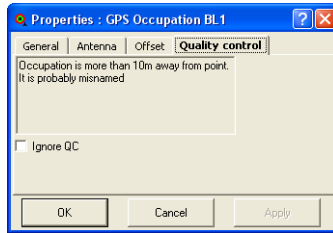

Figure 5-100. Quality Control Properties
5. View *Quality Control* tab contains informational text on selected occupations (marked in red on the views) that did not pass some of the quality control checks (Figure 5-100 on page 5-70). To turn off the feature that marks a point red when it fails some quality control tests, select the *Ignore QC* check box.